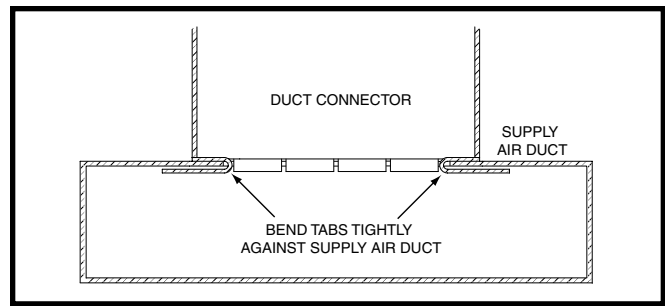

Figure 6. Duct Connector Tabs
7. Bend the connector tabs on the bottom of the duct connector upwards and as tight as possible against the supply air duct. See Figure 6 \(page 7\).